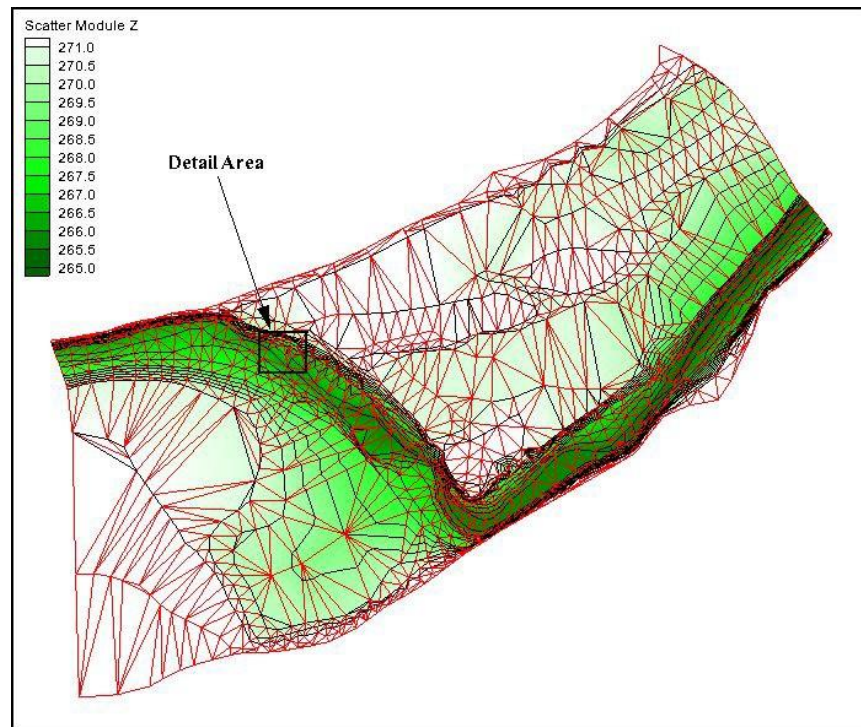

Figure 12 Manual swap detail area
15. **Zoom**  in to the detail area as shown in Figure 12.